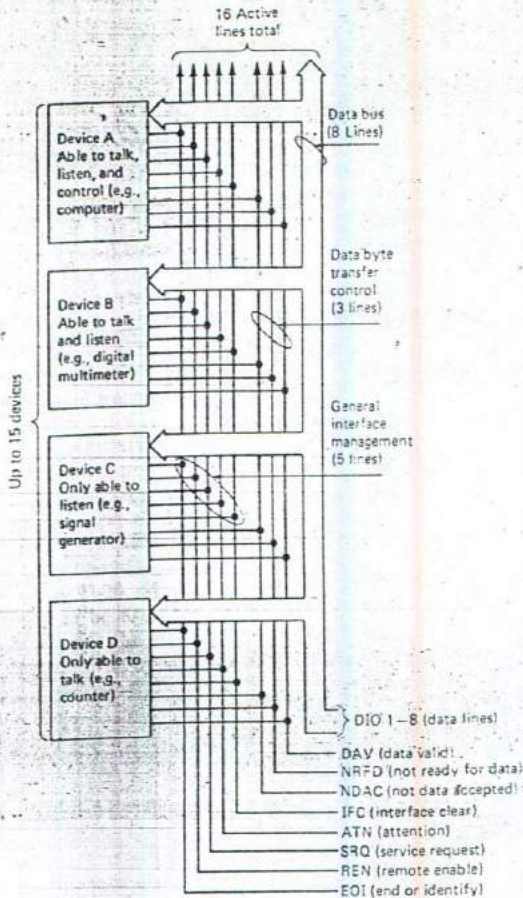

Fig. 13-23 IEEE 488 interface bus.
Figure 13-23 shows the basic configuration of the
IEEE 488 bus. It can accommodate up to 15 devices, which might include items such as computers, digital multimeters, printers, plotters, calculators, signal generators, counters, and disk drives. It is designed for limited distances (up to 20 m) and data rates up to 1 megabyte per second. The signals are TTL-compatible, and 16 active lines transfer data and commands. Eight of the lines are used for data transfers, which are asynchronous and are coordinated by handshaking lines. *Handshaking signals* are used to prevent one device from sending data faster than another device can receive it. The handshaking is accomplished by the data byte transfer control lines shown in Fig. 13-23. The remaining five lines are for the control of bus activity and are shown as the general interface management group in the illustration.
- Refer to Fig. 13-23. What is different about the ground reference technique used in RS-423 as compared to that in RS-232C?
- Refer to Fig. 13-23. What is the combined function of DAV, NFRD, and NDAC?